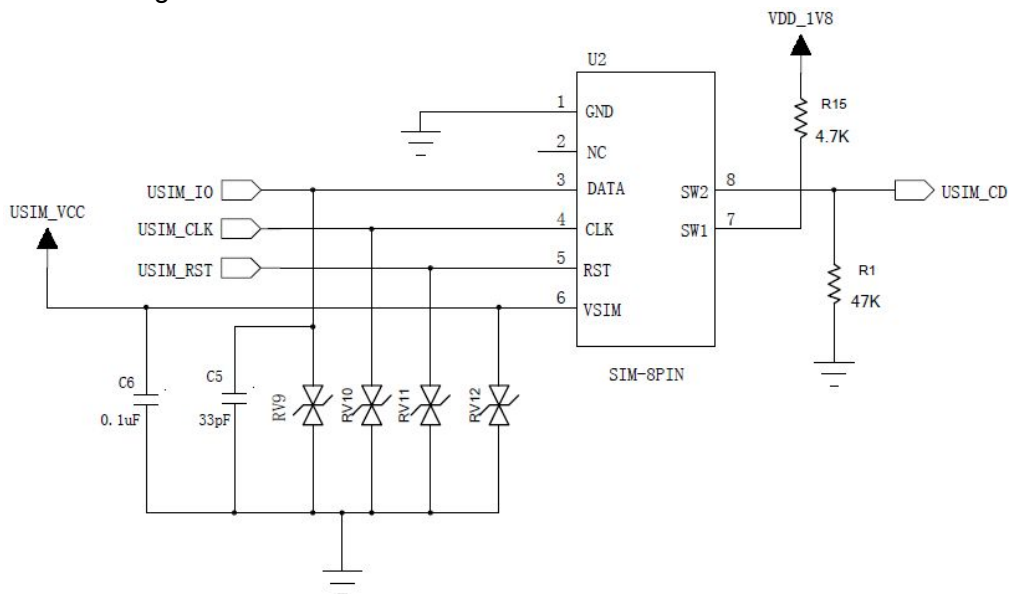

Figure 5-9 Reference Design of “Normally Open” SIM Card Interface
- For “Normal opened” SIM card, as shown in the figure5-9, USIM_CD signal line is connected to U2's Pin8 (SW2), and Pin7 (SW1) will be pulled up 4.7K resistor . When the SIM card is not inserted, SW2 and SW1 will be disconnected, then SW2 will be at low level. When the SIM card is inserted, SW2 and SW1 will short circuit, USIM_CD level will be pulled up.